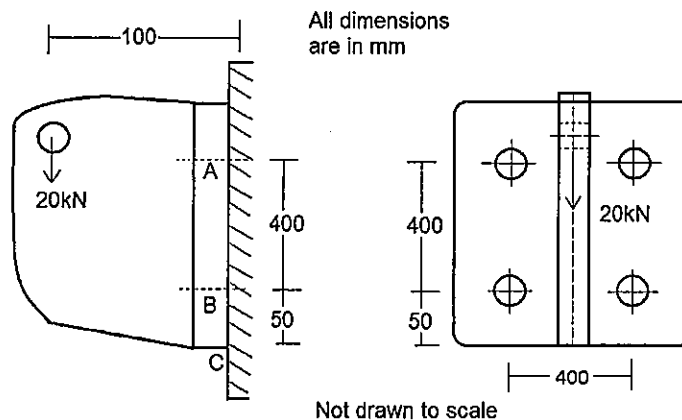

Figure 1
1. This paper contains **FOUR (4)** questions and comprises **FOUR (4)** pages.
- 1(a) Figure 1 shows a bracket for supporting a vertical force of 20 kN acting downwards at a distance of 100 mm from the face of the wall. The bracket is fixed to the steel column by means of four identical bolts, two at A and two at B. The bracket is held against the wall and prevented from tipping about the pivot point C. The four bolts are made of carbon steel ($s_y = 340 \text{ N/mm}^2$) and a factor of safety (N) of 3 is applied.